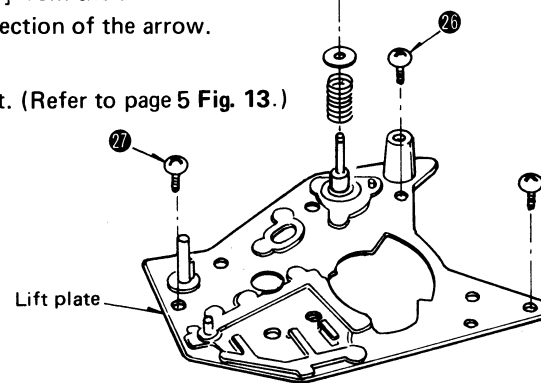

Fig. 11
● How to remove the lift plate (Fig. 11)
2. Remove the 3 setscrews [ Fig. 11: ②⑥ ~ ②⑧ ] of the lift plate.